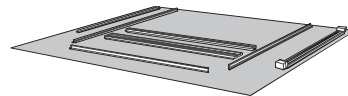

Fig. 2
- Lay the parts out on a cleared area face down. Be sure to place a drop cloth over the floor to prevent scratching the trim kit and/or floor (Fig. 2).